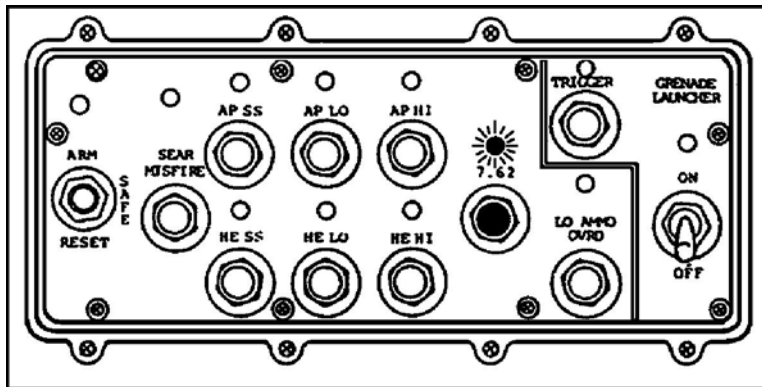

Figure 1. 7.62 button and indicator.
- b. Push the 7.62 button on the weapon control box. The 7.62 indicator light should come on (Figure 1).